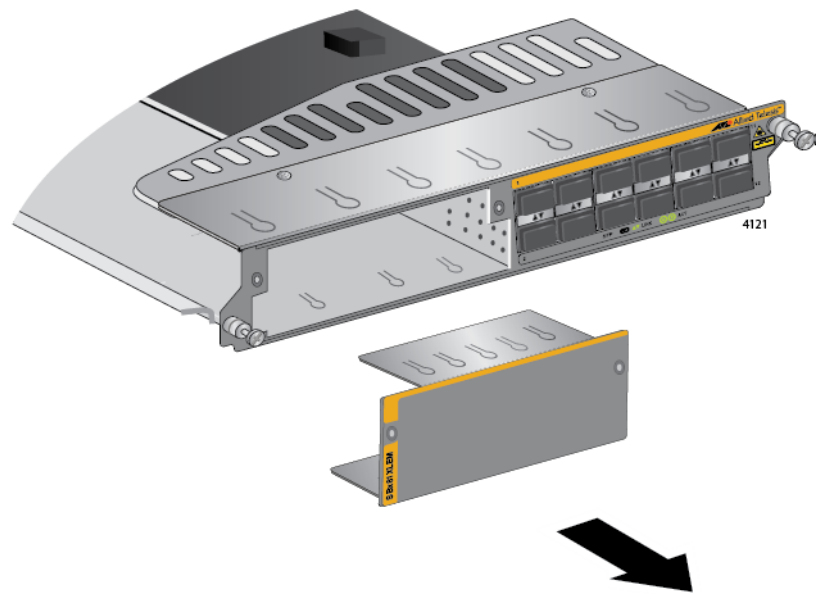

Figure 83. Removing the Blank Slot Cover from the AT-SBx81XLEM Line Card
5. Slide the blank slot cover from the expansion module slot. Refer to Figure 83 on page 144.